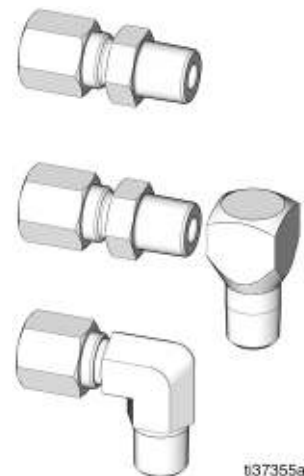

FIG. 3
3. The kit includes a variety of extenders, elbows, straight compression fittings, and elbow compression fittings (FIG. 3). Mix and match fittings and components supplied in the kit to replace the zerks.